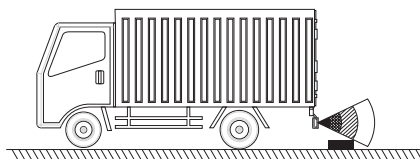

Figure 2
② Small stone blocks that are too low on the road, as shown in Figure 2